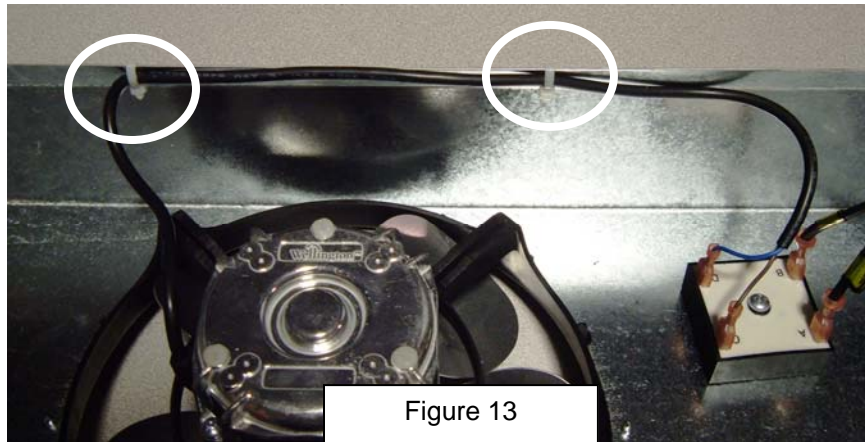

Figure 13
21. Using the (2) 7 ½” Wire Ties (Part# 90190201), route the Evaporator Fan Harness as shown in Figure 13 and secure as shown. Trim the excess of the tie using Side Cutters.